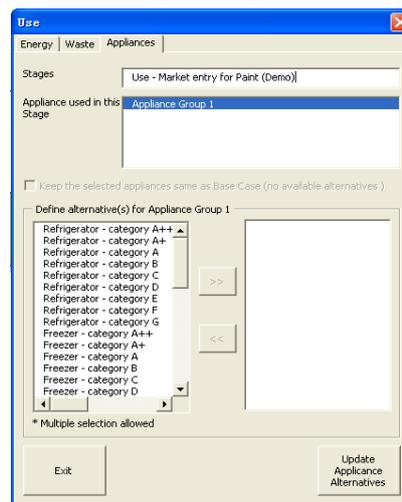

Figure 20 The Use Form 2 for defining the optional information for the use stage
- Select the stage in the *Existing stage* list and click *'Define Use'*. This brings up *Use Form 2* (Figure 20) which allows for other details to be reviewed: *Energy*, *Waste* and *Appliances*.